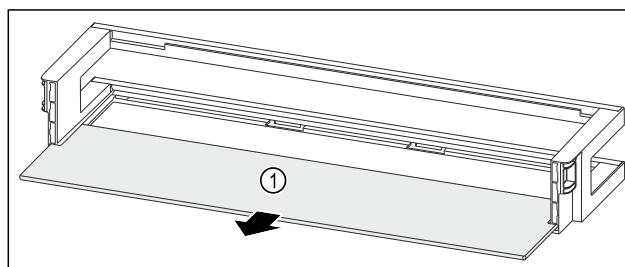

Fig. 259 Door rack with shelf
- Remove the shelf Fig. 259 (1).